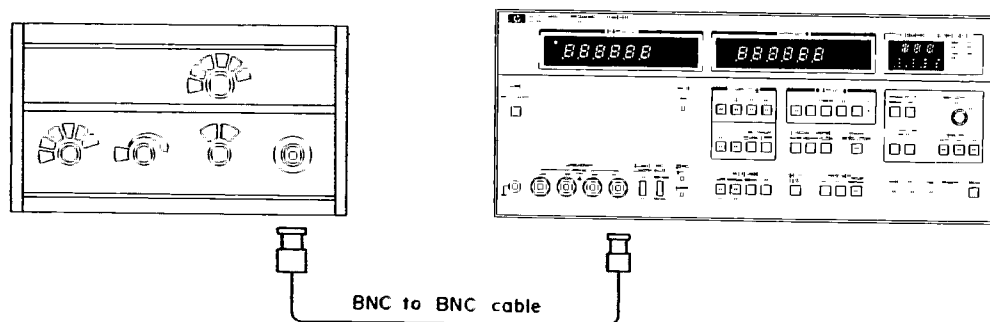

Figure 5-9. Test Signal Level Check Accuracy Adjustment Setup.
4. Adjust potentiometer A3R1 so that FREQUENCY/TEST SIG LEVEL display output is 1.01 (V) within ± 1 count.
5. Connect RF voltmeter input to 4275A UNKNOWN H COF terminal with a BNC to BNC connector as shown in Figure 5-9.